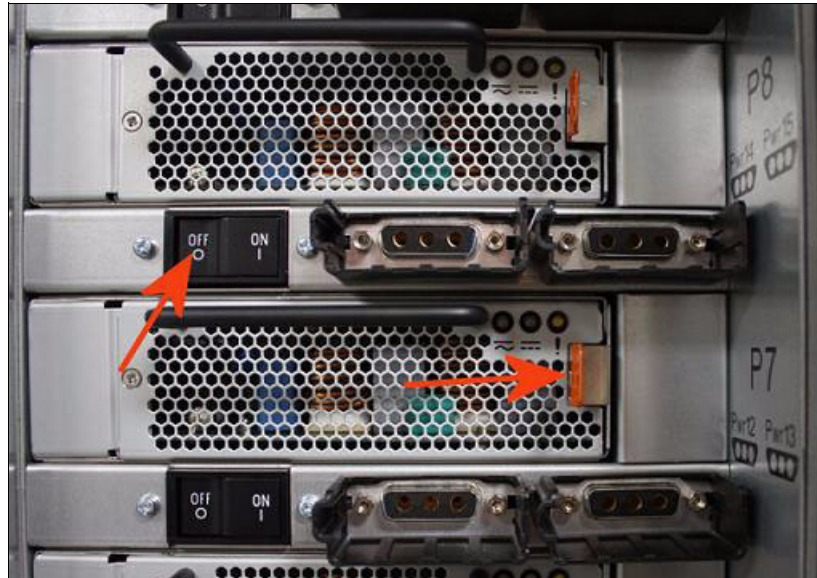

Figure 4-29 Removal tab and ac circuit breaker switch for a BPM
4. Turn off the ac input breaker for the BPM by setting the rocker switch above the BPM to the OFF position. In the I/O rack BPE, the circuit breaker is to the left. See Figure 4-29.
3. Turn off all of the BPM ac circuit breakers. See Figure 4-29 on page 95.